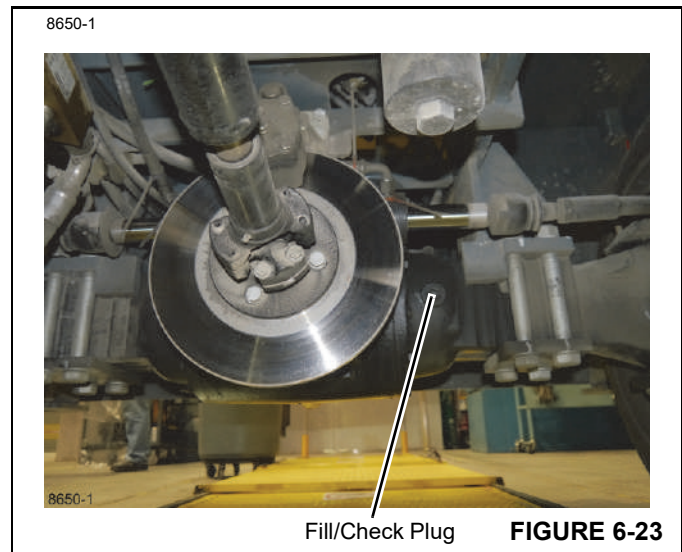

FIGURE 6-23
1. Clean around the axle housing fill/check plug (Figure 6-23) and remove the plug.